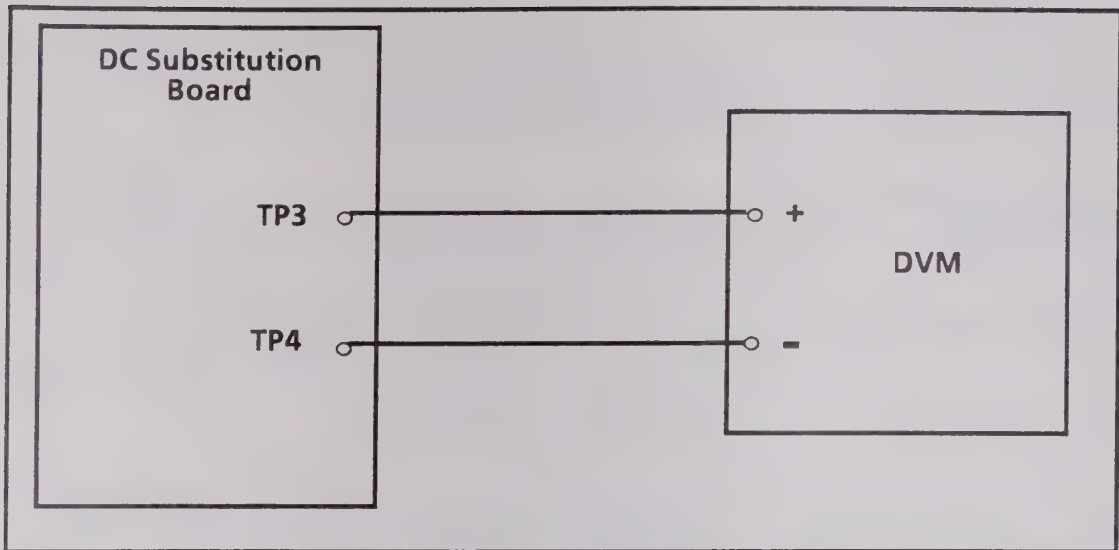

Figure 5-4. 30-Volt Reference Alignment Configuration
- A. Connect the DVM across TP3 and TP4 of the DC Substitution board in accordance with Figure 5-4. Refer to Figure 7-7 for test point locations.